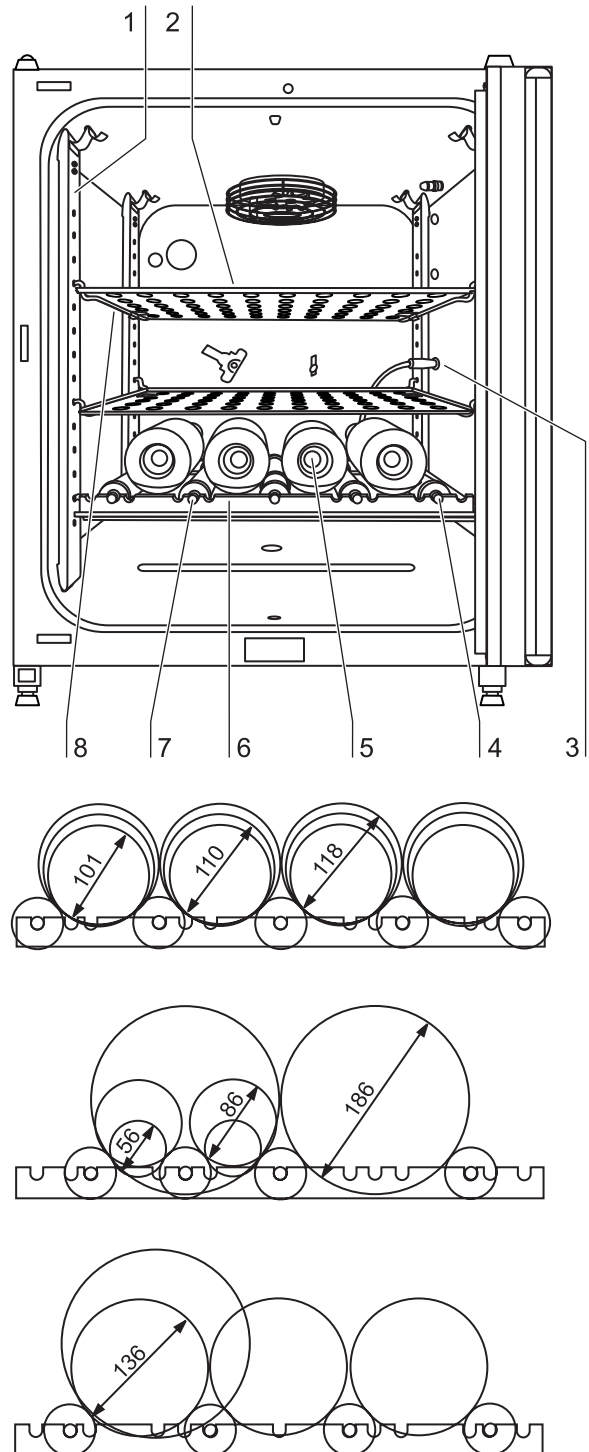

Fig. 16: Bottle turning device
**Fig. 16:** The support rails [1] of the shelf system are perforated every 42 mm so that the support hooks [8] can be inserted variably for any culture container size required. The shelves [2] have an integrated tilt protection and withdrawal stop. For details of the shelf system, see Section „Start-up“.
**Fig. 16:** HERAcell® 240 i may be equipped with up to four separate bottle turning devices. Each unit consists of a roller insert [6] with a drive roller [4] and four idle rollers [7] that are also rotated due to the transmission function of the inserted cylinders [5]. Each unit is controlled separately as the drive roller is connected to the device control unit by a connector [3] at the right side of the device.